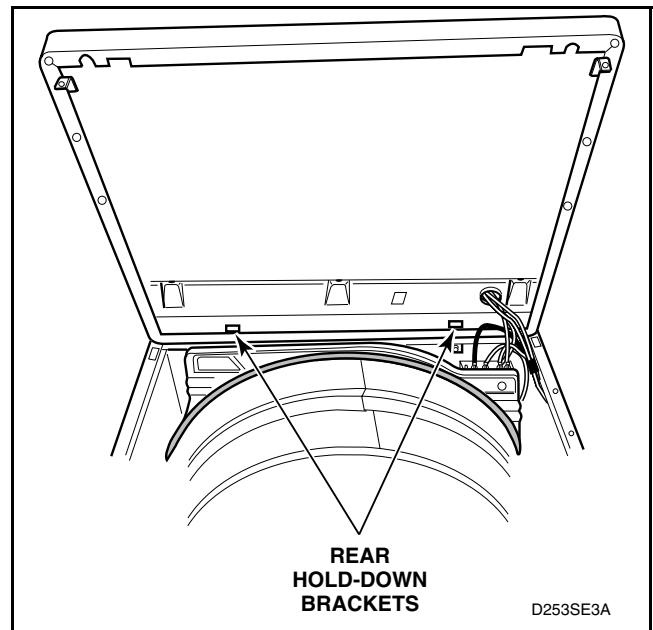

Figure 14
- n. Lift cabinet top to a vertical position by hinging it on the rear hold-down brackets. Refer to *Figure 14*.
- o. Carefully withdraw the wire harness through hole in cabinet top and lift the entire cabinet top assembly off the rear hold-down brackets. Refer to *Figure 14*.
- m. Lift cabinet top to a vertical position by hinging it on the rear hold-down brackets. Refer to *Figure 14*.
- n. Carefully withdraw wire harness through hole in cabinet top and lift the entire cabinet top assembly off the rear hold-down brackets. Refer to *Figure 14*.
- o. Carefully withdraw wire harness through hole in cabinet top and lift the entire cabinet top assembly off the rear hold-down brackets. Refer to *Figure 14*.